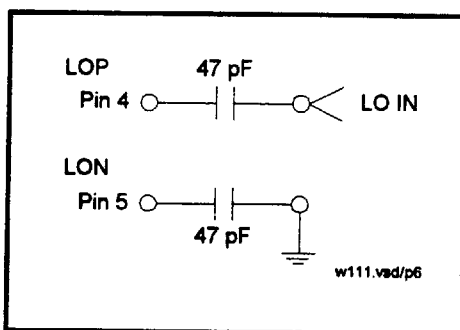

Figure 2. Single-ended LO Input
1. The LO inputs are internally biased, but external AC coupling capacitors of 47 pF are needed. Even though the LO input ports are differential, they can be driven single-ended. To use the LO single-ended, simply connect the LON port to a 47 pF cap to GND (see Figure 2 below).